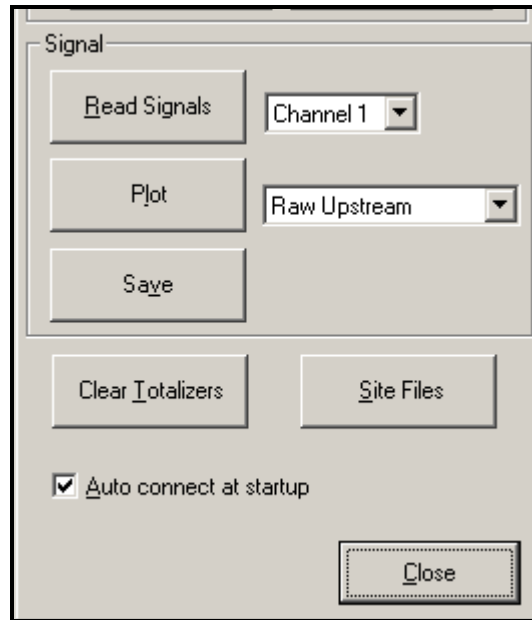

Figure C-11: Active Signal Options in Properties Window
1. Click on the *Read Signals* button. (If the meter is a multi-channel instrument, open the Channel drop-down menu and click on the desired channel.) After a moment, the *Properties* window appears similar to Figure C-11 below.